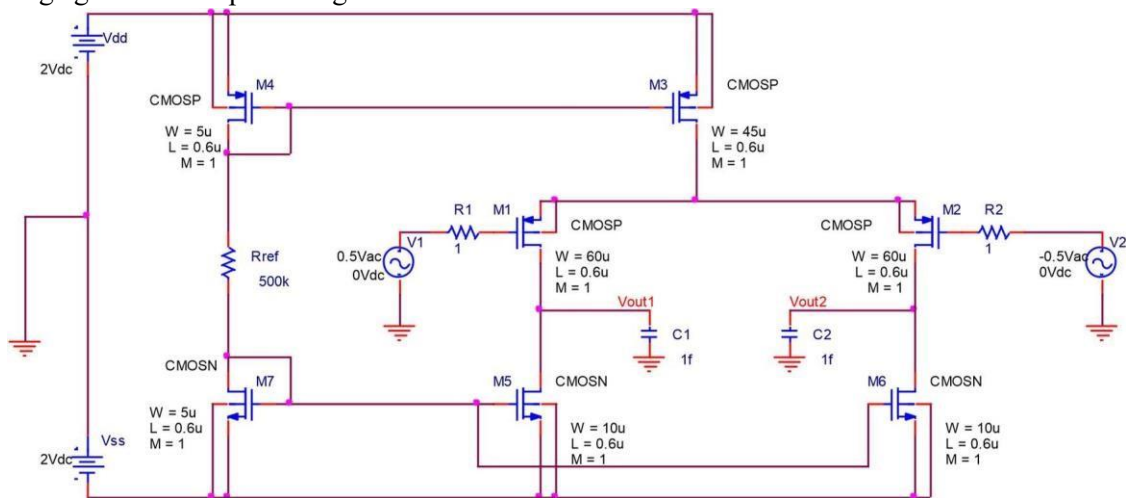

Figure 1. Schematic of the PMOSFET differential stage loaded with NMOSFET current sink.
The differential-in differential-out amplifier shown in Figure 1 operates on capacitive load  $C1, C2$  from voltage source  $V_{id} = V1 - V2$  with internal resistance  $R_{sig} = R1 + R2$ . The differential input voltage of 1 V AC was split into two halves so that numerical value of the output voltage represents the differential voltage gain. The output voltage is taken as  $V_{out} = V_{out1} - V_{out2}$ .
- a) Enter the amplifier schematic in OrCAD (Figure 1) with MOSFET dimensions as shown. At this time use negligibly small values for  $R_1=R_2=1\text{ Ohm}$  and  $C_1=C_2=1\text{ fF}$  (later on these values will be increased to evaluate the impact of these parameters on frequency response of the amplifier). The value of reference resistor  $R_{\text{ref}}$  has to be selected with the last 3 digits of your ID number in kOhm. Take  $R_{\text{ref}}$  as the 3-digits of your ID number if it is above 500. In other case, add 500 to your 3digit number to make  $R_{\text{ref}}$  anywhere in 500k to 1 MOhm range.